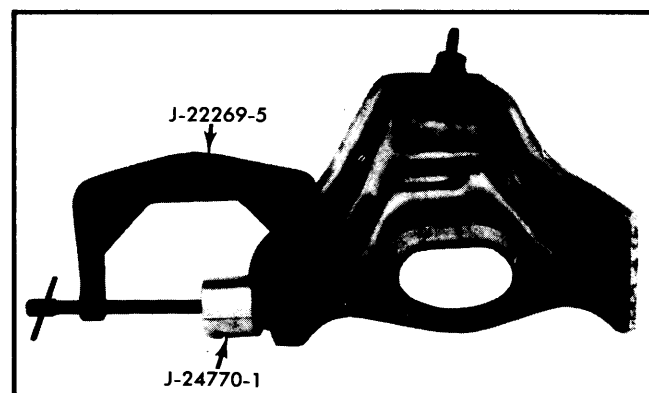

Fig. 3 Installing Upper Control Arm Bushing
**Bushing Installation** – Using same tools used for removal, and adapter (J-24770-1), install bushings. See Fig. 3. Install bushing nuts loosely. Install upper control arm and tighten bushing nuts.